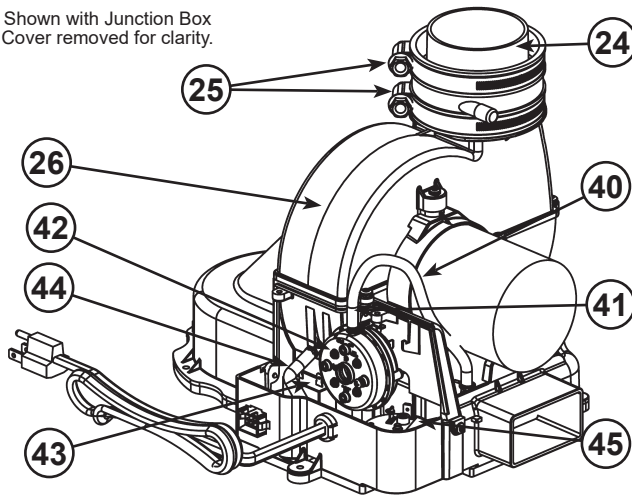

Figure 4.
| 1 Termination Elbow with Vent Screen                         | 22 Hot-Water Outlet Nipple/Anode   | 42 Intake Air Pressure Switch (NC) (inside box) (see Figure 4)  |
| 2 *Vent Pipe   | 23 *Inlet Water Shut-off Valve   | 43 Capacitor (see Figure 4)                                     |
| 3 *Vent Pipe Elbow (long radius)                             | 24 ***Rubber Coupling (see Figure 4)   | 44 Air Tubing (Exhaust) (see Figure 4)                          |
| 4 *Union (Di-electric water connection)                      | 25 Gear Clamp (see Figure 4)   | 45 Exhaust Air Pressure Switch (NO) (inside box) (see Figure 4) |
| 5 Cold-Water Inlet Nipple/Diptube                            | 26 **Blower with Power Cord (see Figure 4)   |   |
| 19 *Gas Supply*  | 40 Air Tubing (Intake) (see Figure 4)  |   |
| 20 Anode (under cap)   | 41 Blower High Limit Switch (see Figure 4)   |   |
This device is located on the blower (see Figure 4, item 41) and limits the maximum temperature of the blower. If the blower temperature rises above the temperature setting, the switch opens causing the heater to shut down.
The blower/heater is equipped with two air pressure switches located in the junction box (see Figure 4, item 42 and item 45). These devices are connected in series and monitor the air pressure produced by the blower. In the event that the exhaust venting becomes blocked or sufficiently restricted, the normally open (NO) air pressure switch will shut down the heater. In the event that the intake pipe becomes sufficiently blocked or restricted, the normally closed (NC) air pressure switch will shut down the heater.